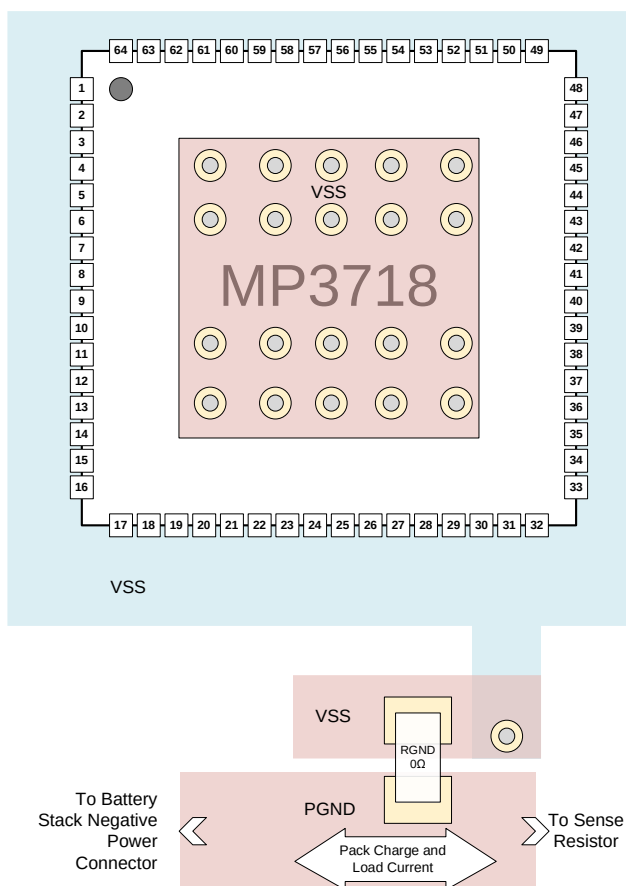
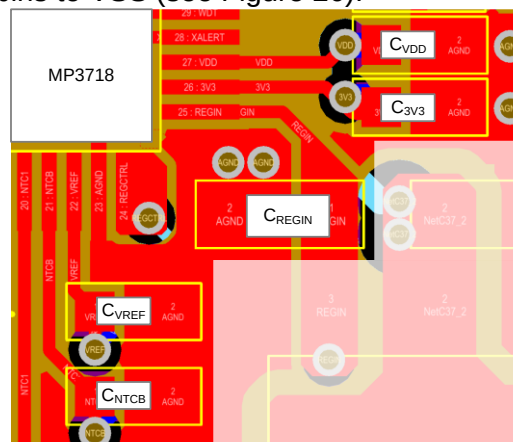
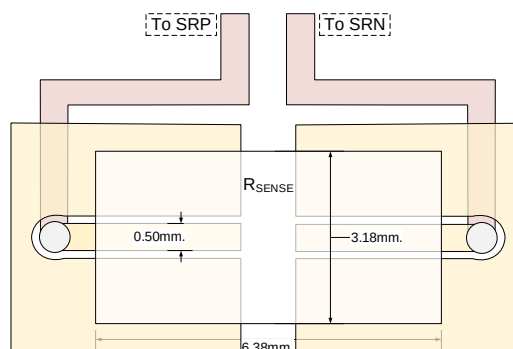

Figure 25: Recommended Layout for AGND
Figure 26: Recommended Layout for Decoupling Capacitors
Figure 27: 2512 Sense Resistor using 4-Wire Footprint
Proper PCB layout is critical to reduce noise, and to optimize the device's accuracy and reliability. For the best results, refer to Figure 25, Figure 26, and Figure 27 follow the guidelines below:
1. Route the ground plane such that it reduces ground noise and prevents stray current (see Figure 25).
5. The REGIN, VDD, VREF, 3V3, and NTCB pins require external decoupling capacitors, which should be placed as close as possible to each pin. Minimize the trace inductance from these pins to VSS (see Figure 26).
6. Consider the Kelvin connection at the sense resistor. A sense resistor with a dedicated sensing pad is ideal. A simple, two-terminal sense resistor can be used in a 4-wire sensing configuration (see Figure 27).